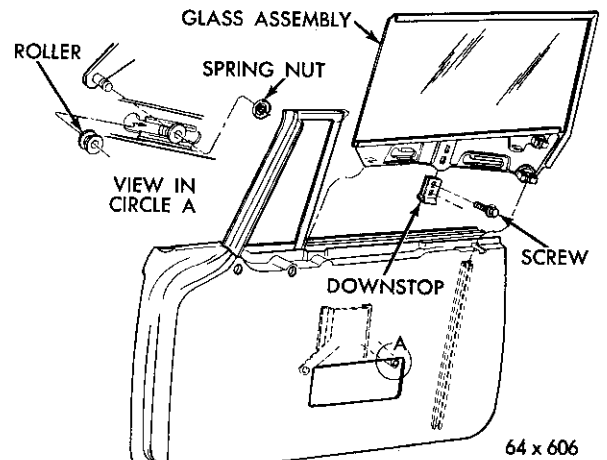

Fig. 83—Front Door Glass and Frame (Imperial)
(3) Remove the two spring nuts from the regulator studs and remove the studs from the glass lower frame rollers (Fig. 83).
(4) Raise the door glass up and out of the run channels.
(5) Remove the rollers from the glass lower frame.